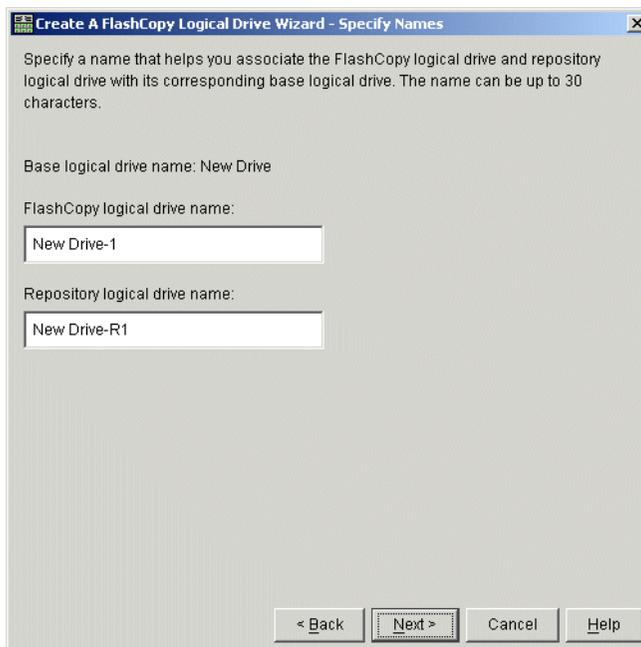

Figure B-8 Create A FlashCopy Logical Drive Wizard - Specify Names window
- For this example we chose the simple method. Select the **Simple** radio button and click **Next**. The Create A FlashCopy Logical Drive Wizard - Specify Names window is displayed (see Figure B-8):